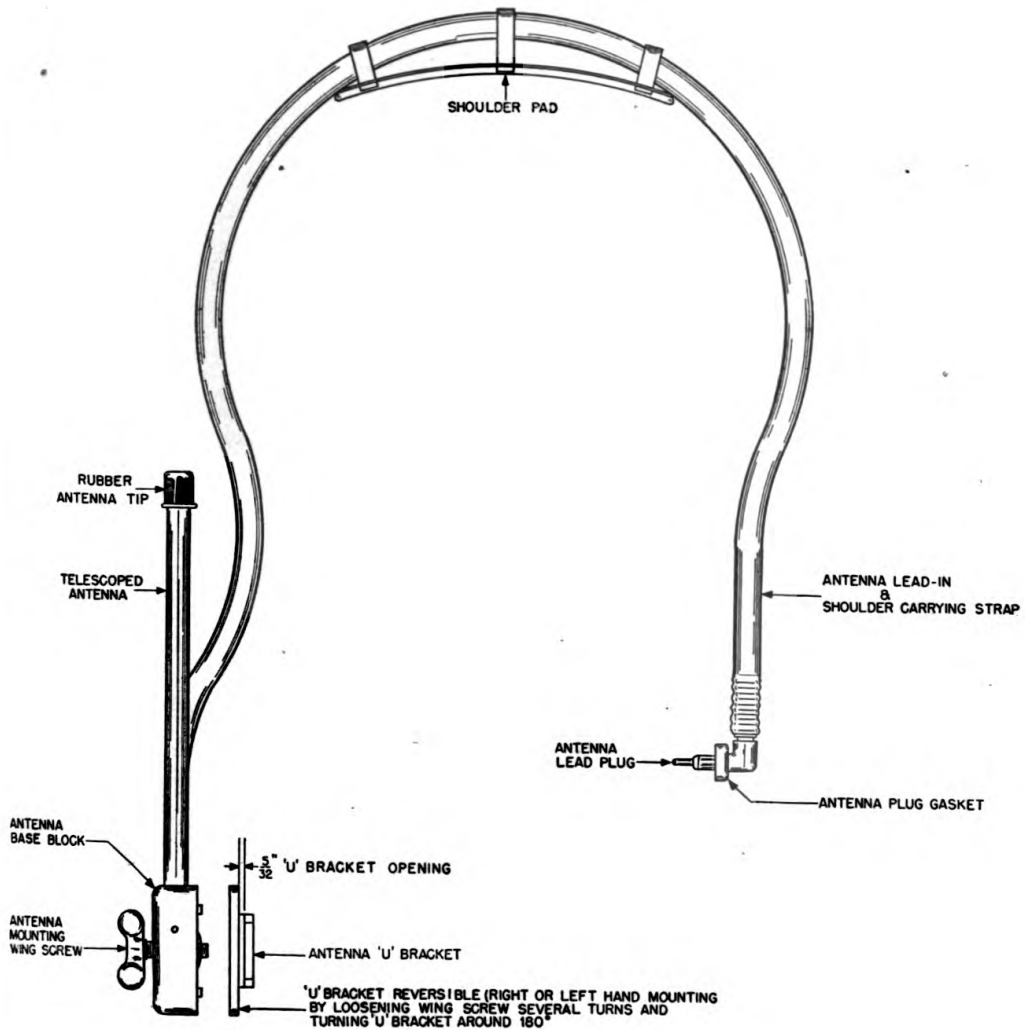

FIGURE 4—ANTENNA AN-75-A, DETAIL
a. Antenna AN-75-A.—Antenna AN-75-A contains nine sections which extend to a height of seven feet. A lead-in attached to the antenna base also has attached to it a U-shaped bracket with a locking wing screw for holding the antenna to the radio receiver housing or to a vehicle. The antenna may be mounted on either the right or left hand side of the vehicle. The base of the antenna is so constructed that the "U" bracket may be rotated 180 degrees by loosening the wing screw, thus providing for either right or left hand mounting. (See Figure 4.) The lead-in is threaded through a leather shoulder pad for carrying Radio Receiver BC-728-A.
- (1) Green ball sinks when approximately 10% of the battery capacity has been discharged.
- (2) White ball sinks when 50% capacity has been discharged.
- (3) Red ball sinks when battery is 90% discharged.
b. Antenna.—Clamp Antenna AN-75-A under the hood of the vehicle or to some support close enough to the radio to permit the antenna lead-in reaching the radio set. (See Figure 4.) Tighten the thumb screw. The "U" bracket on the base of the antenna is reversible, so that the antenna may be mounted on either the right or left hand side of the vehicle. To reverse the "U" bracket, loosen the large thumb screw and turn the "U" bracket around 180 degrees.